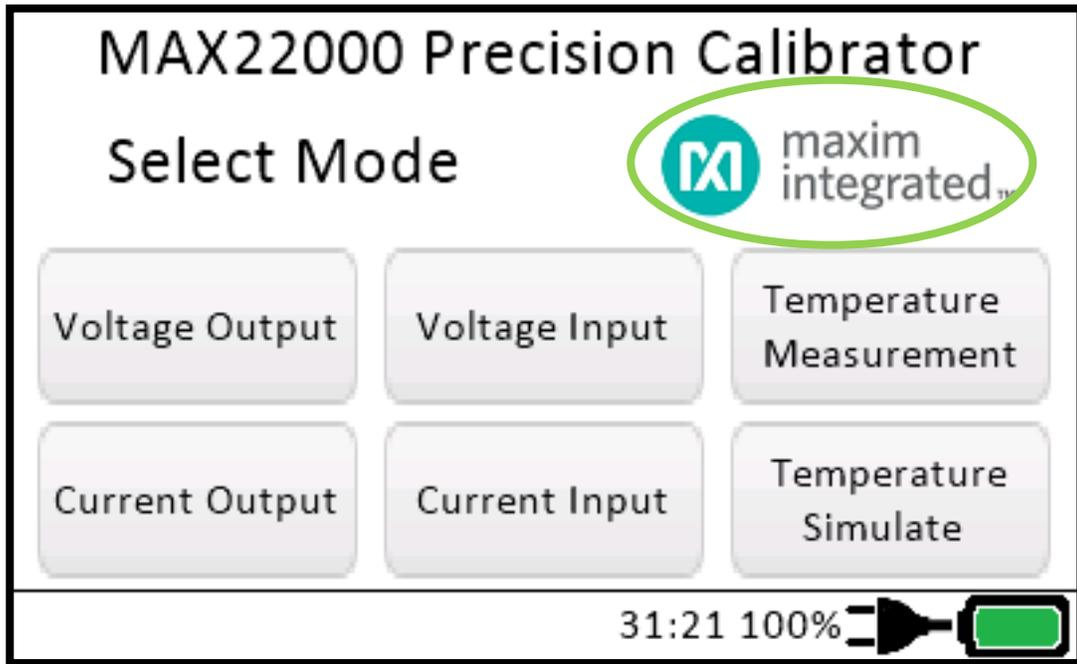

Figure 17. MAXREFDES183# Special Function mode.
21. In addition to the normal user functions found in commercial precision calibrators, MAXREFDES183# has some special functions which can be accessed by clicking on the Maxim Logo in the main menu (**Figure 17**).